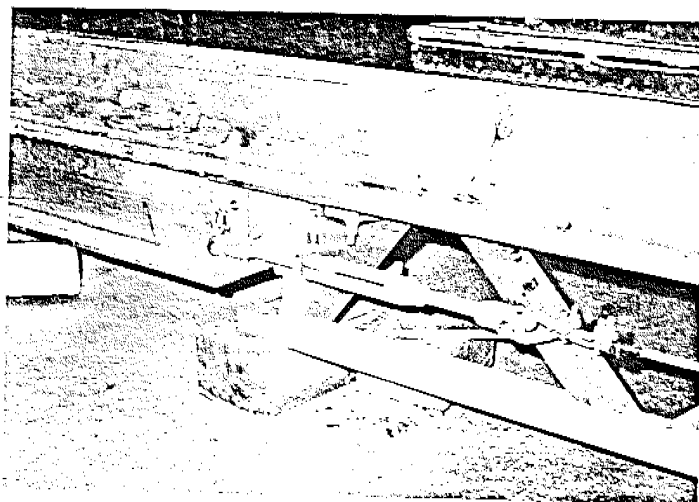

FIGURE 11
6.  **INSTALL TURNBUCKLE AND CABLE** on decks on each side. This allows for thermal expansion of plates. (See Figure 11).